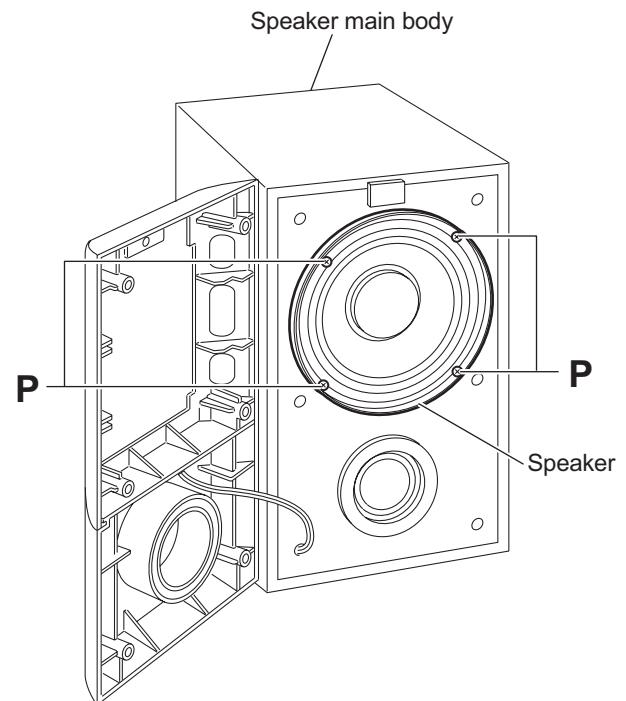
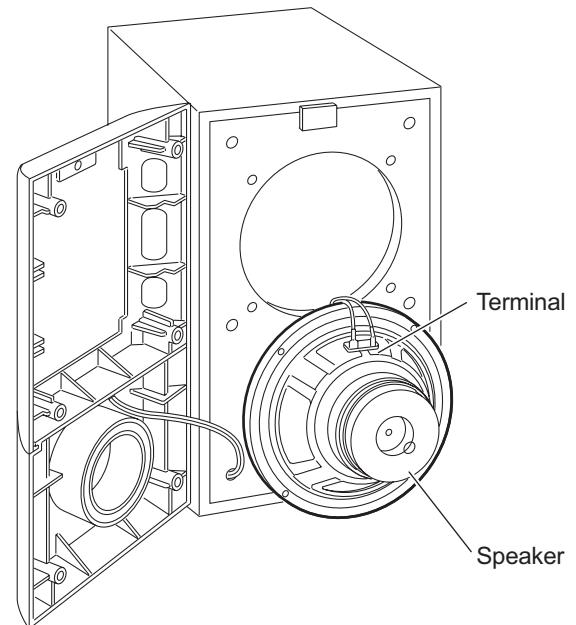

Fig.18
Fig.19
(See Figs.18 and 19)
- (1) Remove the four screws **P** attaching the speaker. (See Fig.18.)
- (2) Take out the speaker.
- (3) Disconnect the wires from the terminal of the speaker. (See Fig.19.)